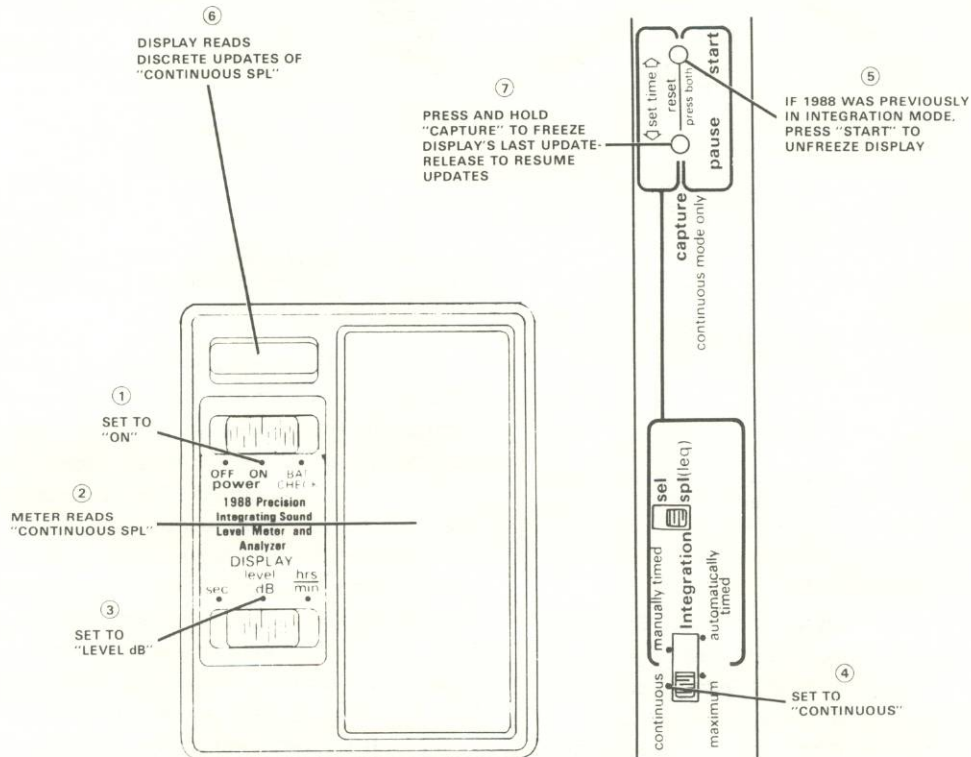

Figure 3-8. Operational procedure in Continuous Mode. Perform steps 1 through 7 in sequence shown. Digital display then indicates updates of Continuous SPL.
**Figure 3-5. Operation procedure in "Automatic Preset-Time Mode" after "T" is established (Figure 3-8). Perform steps 1 through 7 in sequence shown. 1988 performs computation of LEQ/SEL for preset period "T", and automatically stops integrating when "T" is completed.**
b. For a Set Integration Time (T) between 0-600 s, set the DISPLAY control to the *sec* position; for a T between 10 min (600 s) and 24 h, set DISPLAY to *hrs/min*.
tional mode; it is primarily intended for the "capture" of a discrete update of Continuous SPL on the display. Maximum SPL can also be displayed in this mode. The operating procedure for the Continuous Mode is described below and illustrated in Figure 3-8.